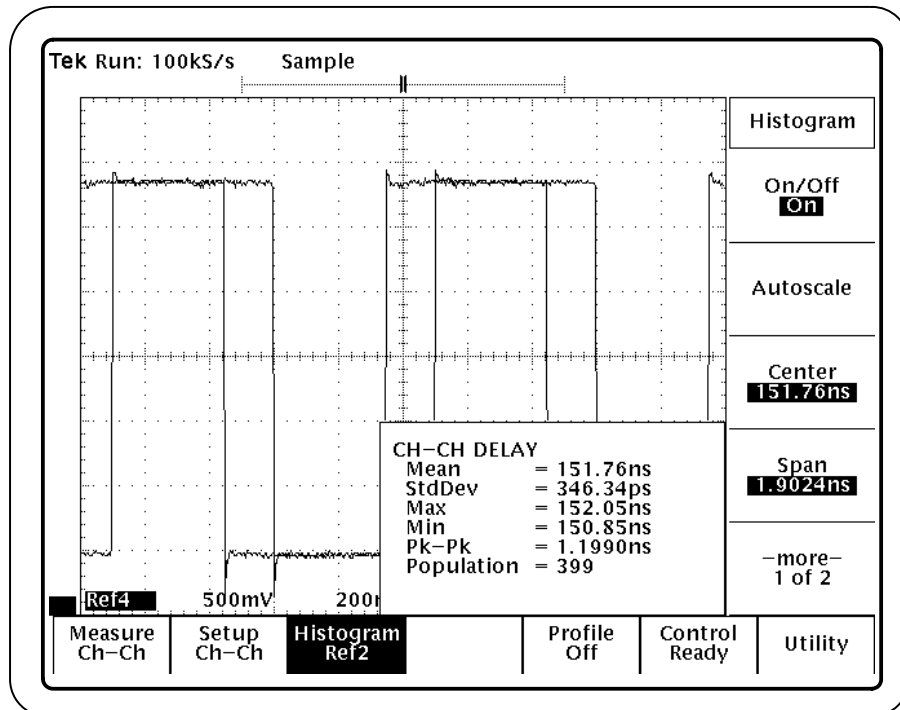

Figure 23: Histogram format menu
6. Press Histogram (main) → On/Off (side) to select On. Ref2 appears under Histogram to indicate that the results will be stored in Ref2. See Figure 23.